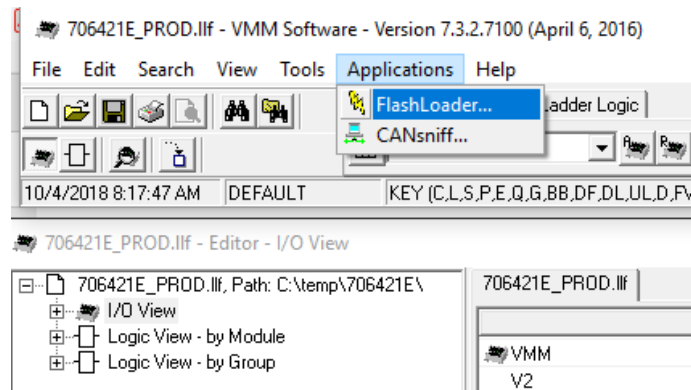

Figure 4: Selecting FlashLoader
3. If there is an exposed USB B connector as shown in Figure 4, connect your laptop to the USB B connector with the USB A to B connector (also known as a printer cable).